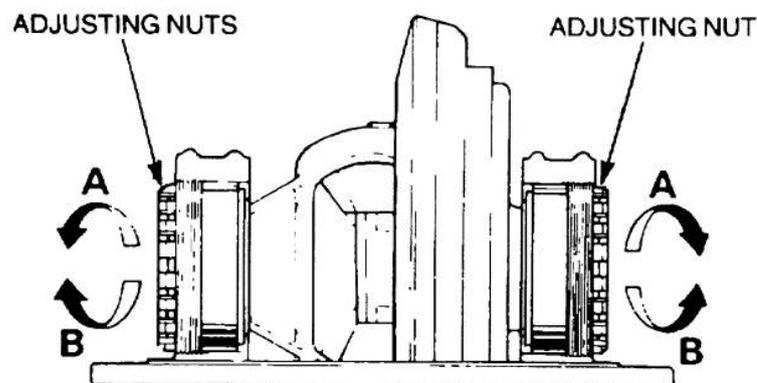

Figure 266 Adjustment of the Crownwheel Backlash
- x. Install the bearing adjusting nuts and turn the nuts in direction A to reduce backlash, or in direction B to increase backlash (Figure 266). Finally, tighten the adjusting nuts one-half of a serration and torque the bearing cap bolts to 81 N.m (60 lbf.ft).